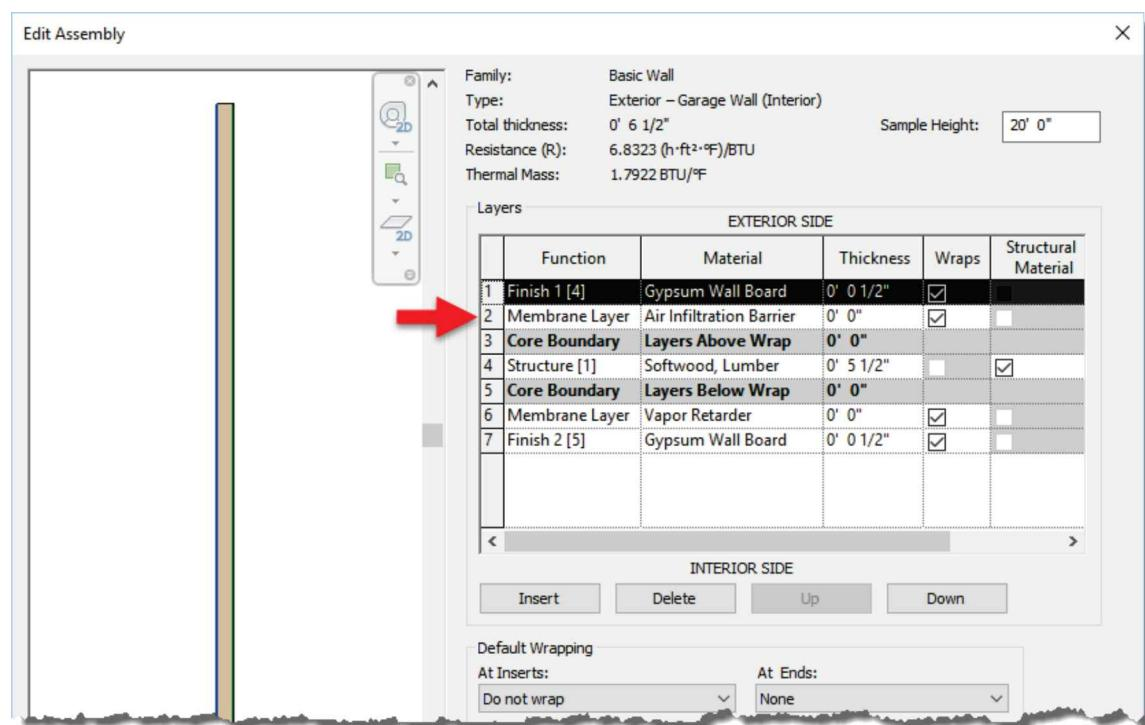

FIGURE 5-3.9 Modified edit assembly dialog
23. Change the $\frac{3}{4}$ " sheathing layer by clicking in each cell in that row and then clicking the down-arrow that appears to the right; change the *Function* to **Finish 1 [4]**, *Material* to **Gypsum Wall Board**, *Thickness* to $\frac{1}{2}$ " (Figure 5-3.9). **OK** to close the dialogs.